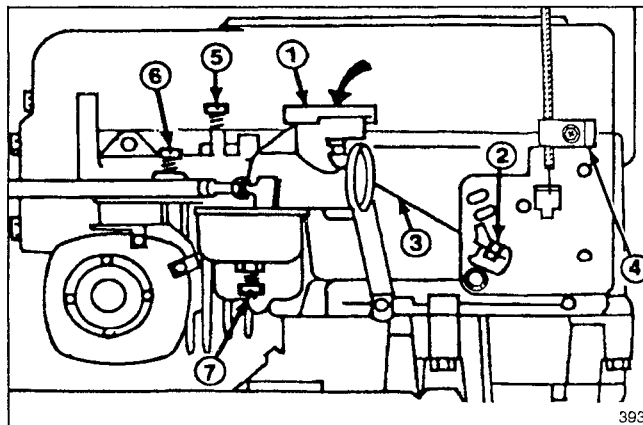

Figure 15
2. Move throttle control lever to CHOKE position and check the position of the choke butterfly; it should be fully closed (Fig. 15).
3. Move throttle control lever to FAST position. The butterfly should be in the fully open position (Fig. 15).
2. Loosen the throttle cable clamp screw (Fig. 15) and move the control cable casing and wire until the throttle lever touches choke link. Check for proper choke operation.
1. Needle Valve (Fig. 15) — Close valve by gently rotating it clockwise.
2. Rotate — open — the needle valve 2 turns counterclockwise (Fig. 15).
4. Rotate needle valve (Fig. 15) clockwise, 1/8 turn at a time, until engine starts to lose speed. Let engine react to each 1/8 turn setting.
5. Rotate needle valve (Fig. 15) counterclockwise — out — 1/8 turn at a time, until engine first runs rough. Let engine react to each 1/8 turn setting.
6. Rotate needle valve (Fig. 15) clockwise — in — very slowly until engine starts to run smoothly. This setting, under no load, may be slightly rich; however, the slightly rich setting will assure proper operation when engine is under load.